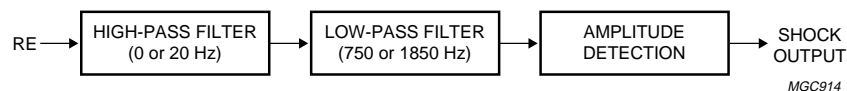

Fig.21 Block diagram of radial shock detector.
The shock detector (see Fig.21) can be switched on during normal track following, and detects within an adjustable frequency whether disturbances in the radial spot position relative to the track exceed an adjustable level (controlled by *shock_level*). Every time the radial tracking error (RE) exceeds this level the radial control bandwidth is switched to twice its original bandwidth and the loop gain is increased by a factor of 4.